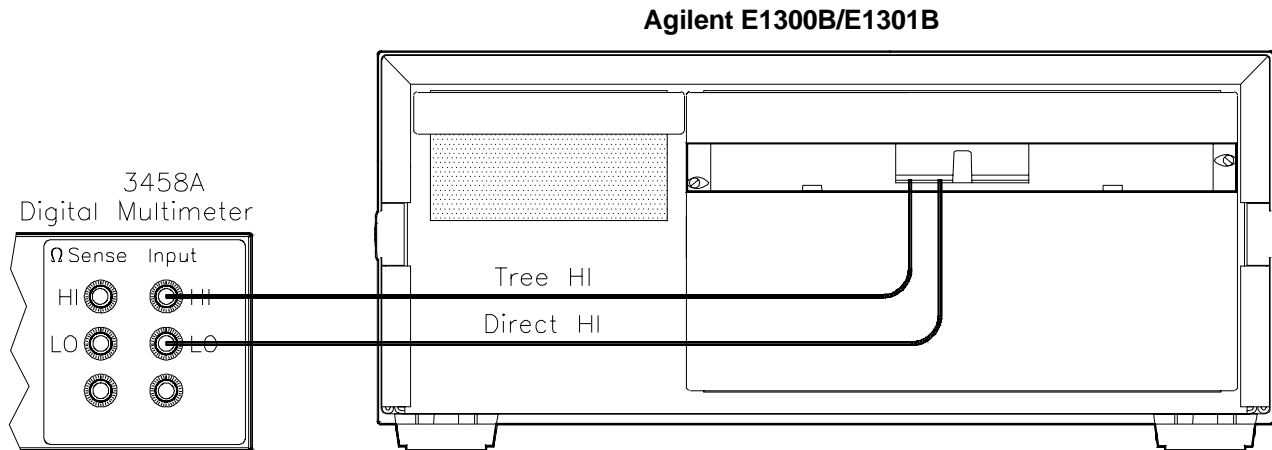

Figure 2-4. Tree HI Resistance Test Connections
- Connect DMM as shown in Figure 2-4